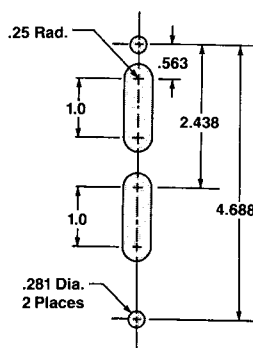
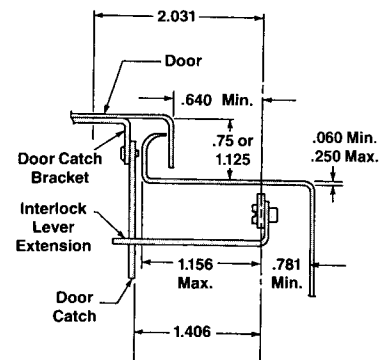

Fig. 1
Fig. 2
- A. Drill the mounting holes in the enclosure flange and file all burrs. See Figures 1 & 2. Note the maximum and minimum drill hole distances in Figure 2.
Operating Note: With the enclosure door open, the operating handle cannot be moved from the "OFF" to "ON" position without deliberately defeating the interlock mechanism. In the "OFF" position, the interlock can be defeated by pushing the interlock lever extension (10) downward while moving the handle to the "ON" position (see Fig. 2). With the enclosure door open and the handle in the "ON" position, the interlock can be defeated by turning the defeater screw (11) on the operating handle counter-clockwise. When the enclosure door is closed, the door latch mechanism now automatically defeats the interlock.
- F. Weld the door catch bracket (12) to the enclosure door. See Figures 2 & 4. NOTE: Holes may be drilled in the door catch bracket using the projections as centers. User must provide the mounting hardware.
- G. Fasten the door catch (13) to the door catch bracket with (2) #8-32 x 5/16" pan head screws and external tooth lockwashers. See Figure 2.